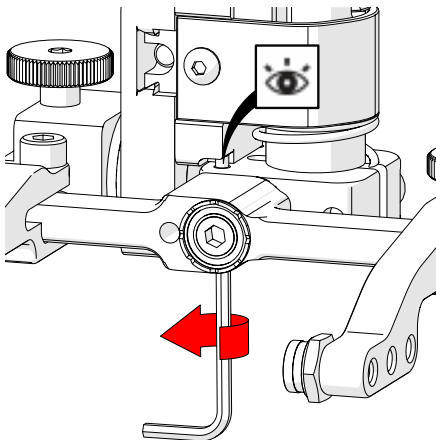

Fig. 125 - Raise opposite 90° stop post
8. Raise the stop post on the opposite side until the side of the post contacts the 90° stop point on the probe holder's base (Fig. 125).